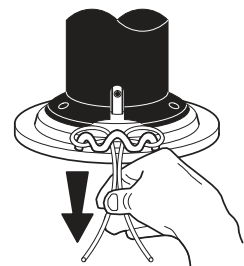

Figure 15
7.5.8 Then, check to make sure that the ends of the line are even (See Figure 15).